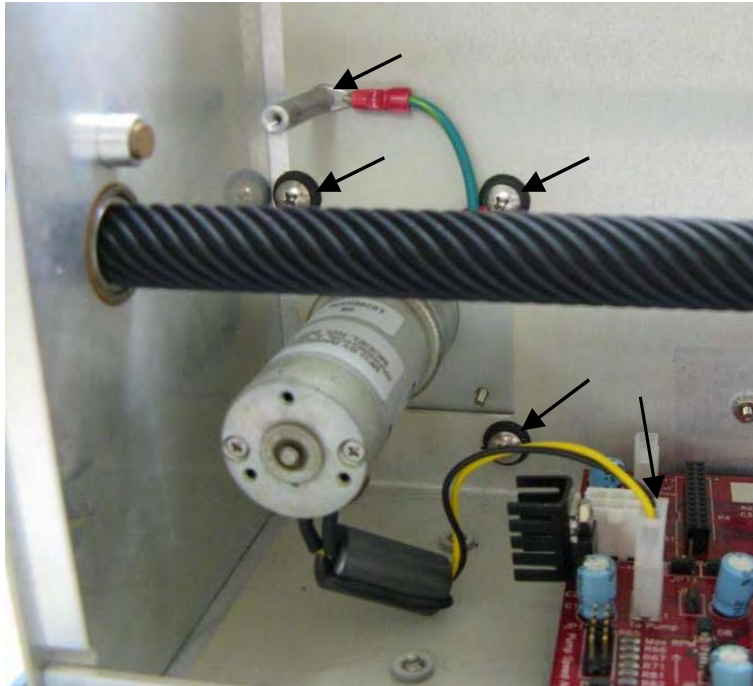

Figure 1-16. View of the old pump assembly.
13. The pump is now accessible. Remove the old pump by unplugging the power connection; unbolt the grounding wire, and removing the four mounting screws. See figure 1-16. The screws are installed with locktite so if they are difficult to remove, apply heat to the front to loosen the locktite.